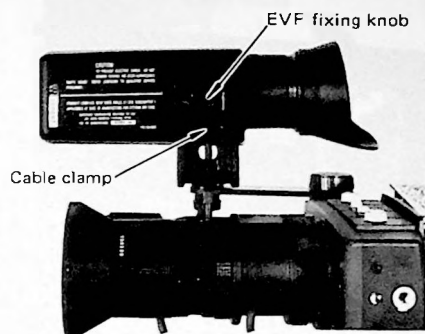

Fig. 2-2-1
- Remove viewfinder cable from the cable clamp, loosen the EVF fixing knob and remove the viewfinder from the mounting bracket. (Fig. 2-2-1)